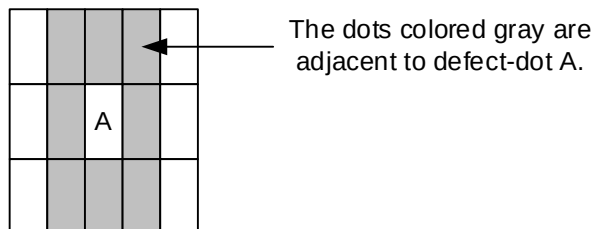

Fig. 10.5
- The definition of adjacent dot is shown as Fig. 10.5.